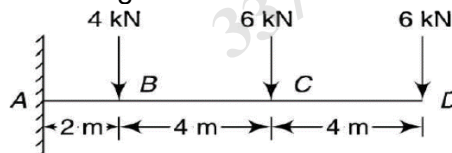

Fig. 3
Q5 A cantilever of 10 m span carries loads of 4 kN and 6 kN at 2 m and 6 m respectively from the fixed end along with another load of 6 kN at the free end as shown in Fig. 3. Draw the shear force and bending moment diagrams. (16)